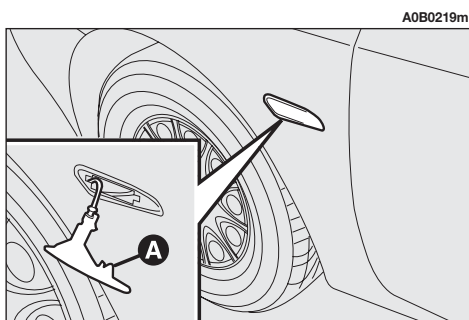
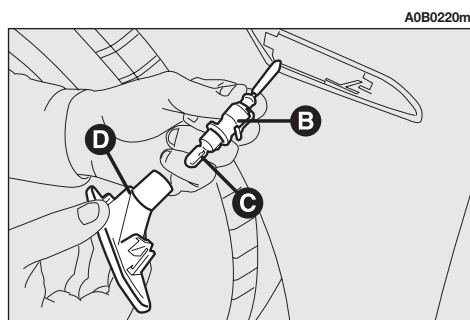

fig. 38
fig. 39
- Push the transparent cover towards the rear of the car to compress the tab (**A-fig. 38**). Release the front part and remove the unit.
- Turn the bulb holder counter-clockwise (**B-fig. 39**) and remove it from the transparent cover (**D-fig. 39**).
- Withdraw the bulb (**C-fig. 39**) which is of the pressure-fitted type and replace it.
- Insert the bulb holder (**B-fig. 39**) in the transparent cover (**D-fig. 39**) and position the unit ensuring that the clip clicks into place (**A-fig. 38**).